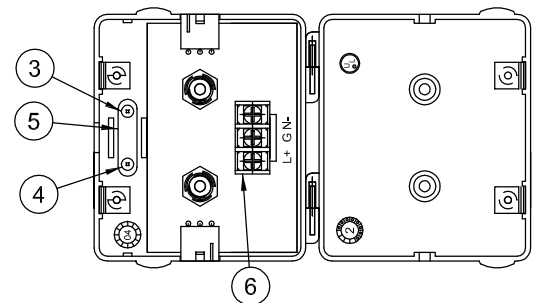

FIG. 2
3. Strip Supply Wires (16) back 3/8" long.
4. Remove Screw (3), (4) and Clamp (5) from the module to allow connection of power supply to Terminals (6). (See fig. 2)